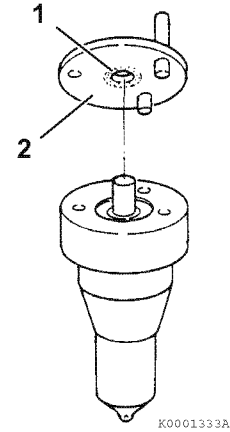

Figure 7-50
6. Inspect the sealing surfaces (**Figure 7-50, (2)**) between the valve stop spacer and nozzle body for nicks or scratches. Check the contact area between the valve stop spacer and the nozzle valve (**Figure 7-50, (1)**) for scoring, or pitting. Use a magnifier glass to inspect the area.